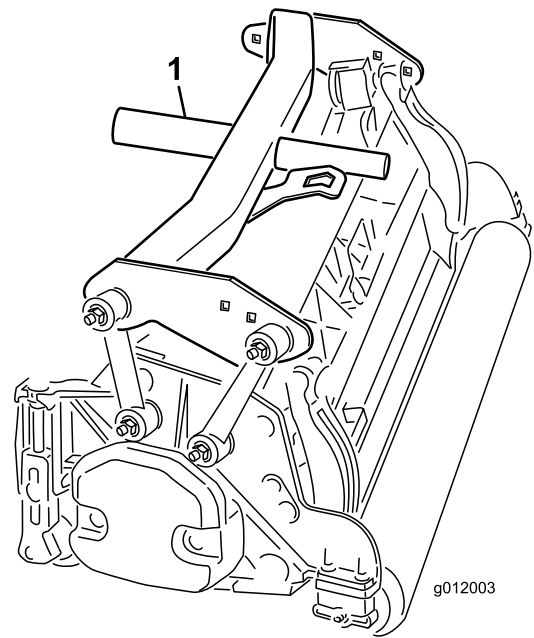

Figure 18
4. Position the rear carrier frame (Figure 18) onto the rear cutting unit.